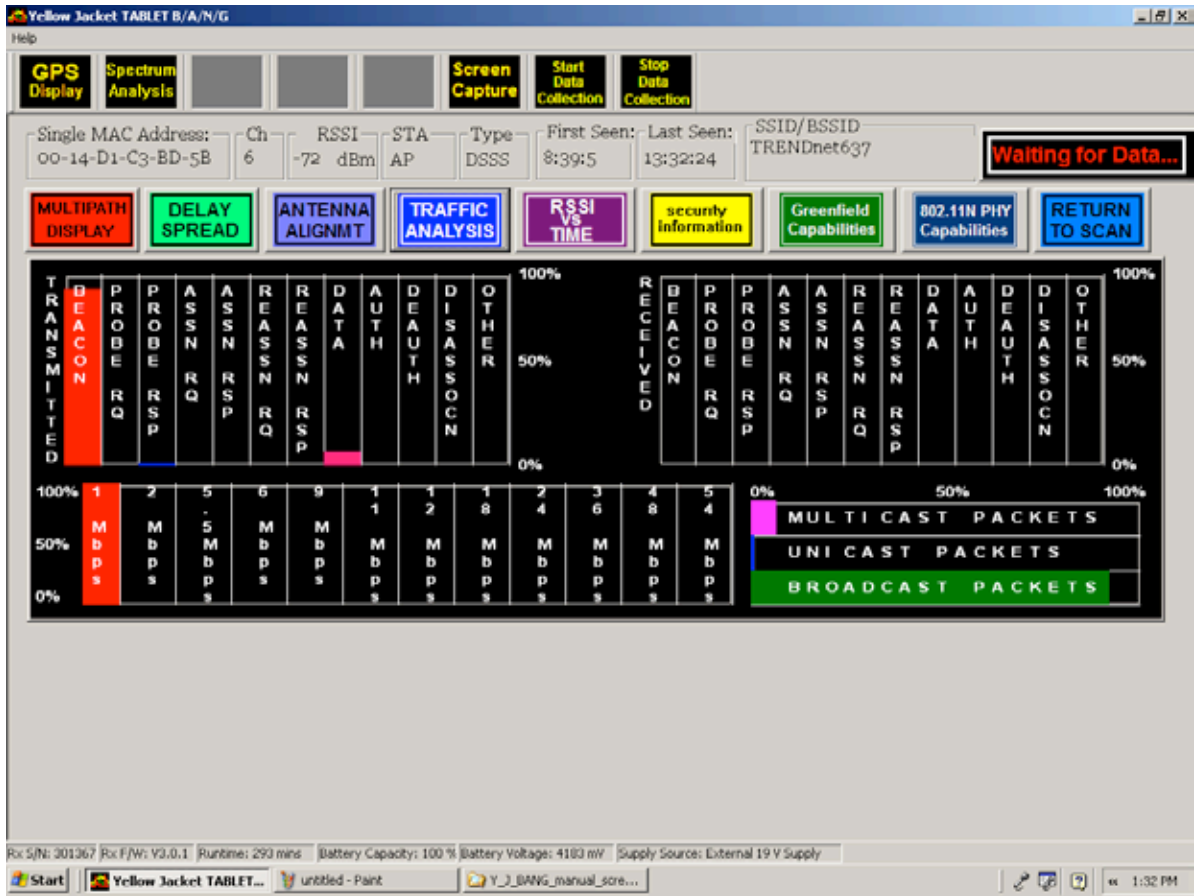

Figure 16. Traffic Analysis function window
**Traffic Analysis:** The Traffic Analysis Screen (see Figure 16 below) shows the relative distribution of the transmitted and received packets by the selected device in the MAC address list in the Detected Wireless Devices screen (see Figure 6 or 11 above).